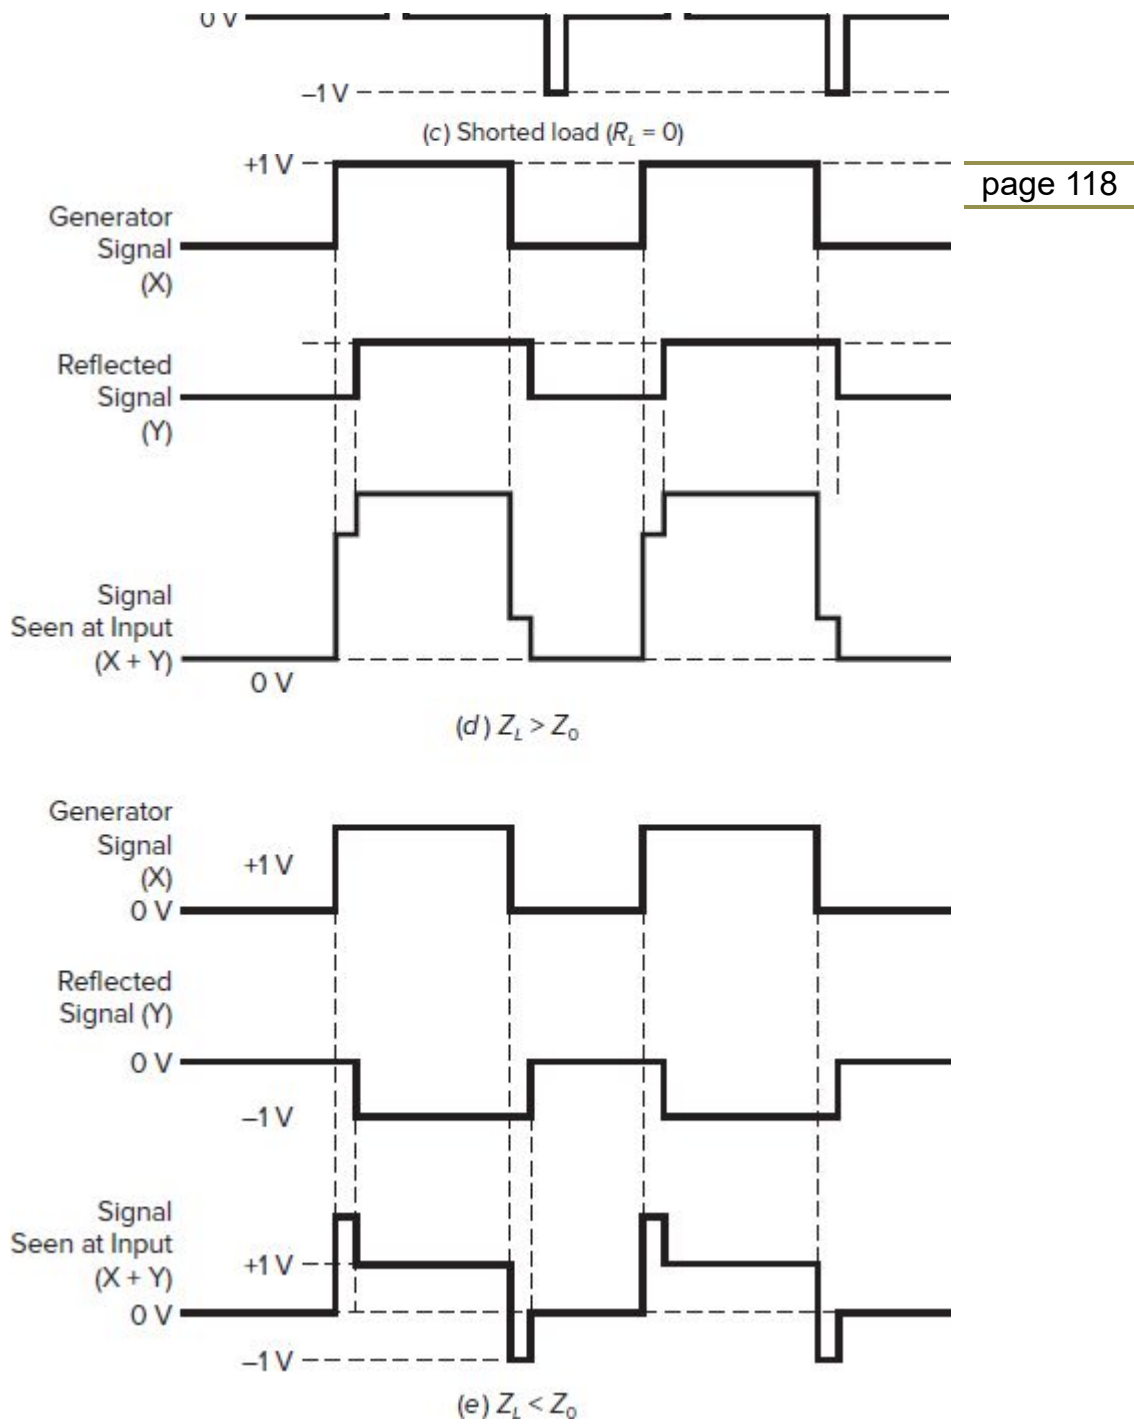

Fig. 13-6 Typical TDR waveforms.
Figure 13-6 shows some typical conditions. The input is a dc square wave that varies from 0 V to +1 V. In Fig. 13-6(a), the load is matched to the generator, so no reflection occurs. The signal at the input is not affected, because there is no reflection. In these illustrations, we are assuming no signal attenuation in the cable.
In Fig. 13-6(b), the line is open at the end, thereby producing 100 percent reflection. The reflected pulse will appear back at the input delayed by the line where it adds to the input pulse. Note the time
In Fig. 13-6(c), the line is shorted at the load. This also results in 100 percent reflection, but the returned pulse is inverted in polarity as well as being shifted in time. Note that the resulting signal at the input is bipolar when the reflected signal is added to the generator signal.
Figure 13-6(d) shows the waveform resulting when the load impedance (Z_L) is greater than the line impedance and generator impedance (Z_0), or $Z_L > Z_0$. Figure 13-6(e) shows the waveform resulting when the load impedance (Z_L) is less than the line impedance and generator impedance (Z_0), or $Z_L < Z_0$. These waveforms are only approximations, as the exact shape of the composite input signal depends on the length of the line.
1. Looking at the waveforms you drew in steps 10, 11 and 12 (which should be similar to these in Fig. 13-6), explain how you